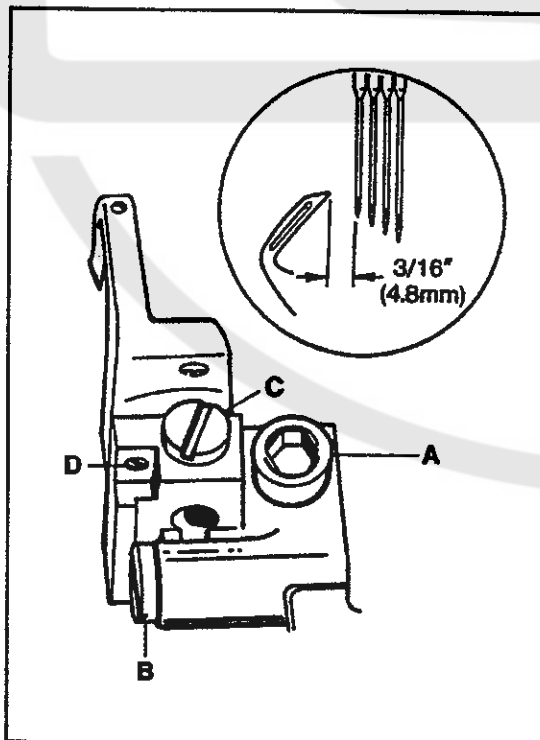

FIG. 14
Turn the handwheel in operating direction until the looper has traveled fully to the left. Loosen screw (A, Fig. 14) and move the looper holder to the right or left until the distance from the point of the looper to the center of the first (left) needle is  $3/16"$  (4.8mm). Clearance between the looper point and the scarf of the needle must not exceed  $.002"$  (0.05mm). Turn screw (B) until the  $.002"$  (0.05mm) dimension is achieved. Tighten screw (A).
A clearance of  $.018"$  to  $.025"$  (0.46mm to 0.64mm) should be maintained between the top of the looper and the bottom of the stitch tongue. Loosen screw (C, Fig. 14) and turn screw (D), directly under the looper, up or down as required. Make sure the looper is seated and tighten screw (C). Check for clearance.